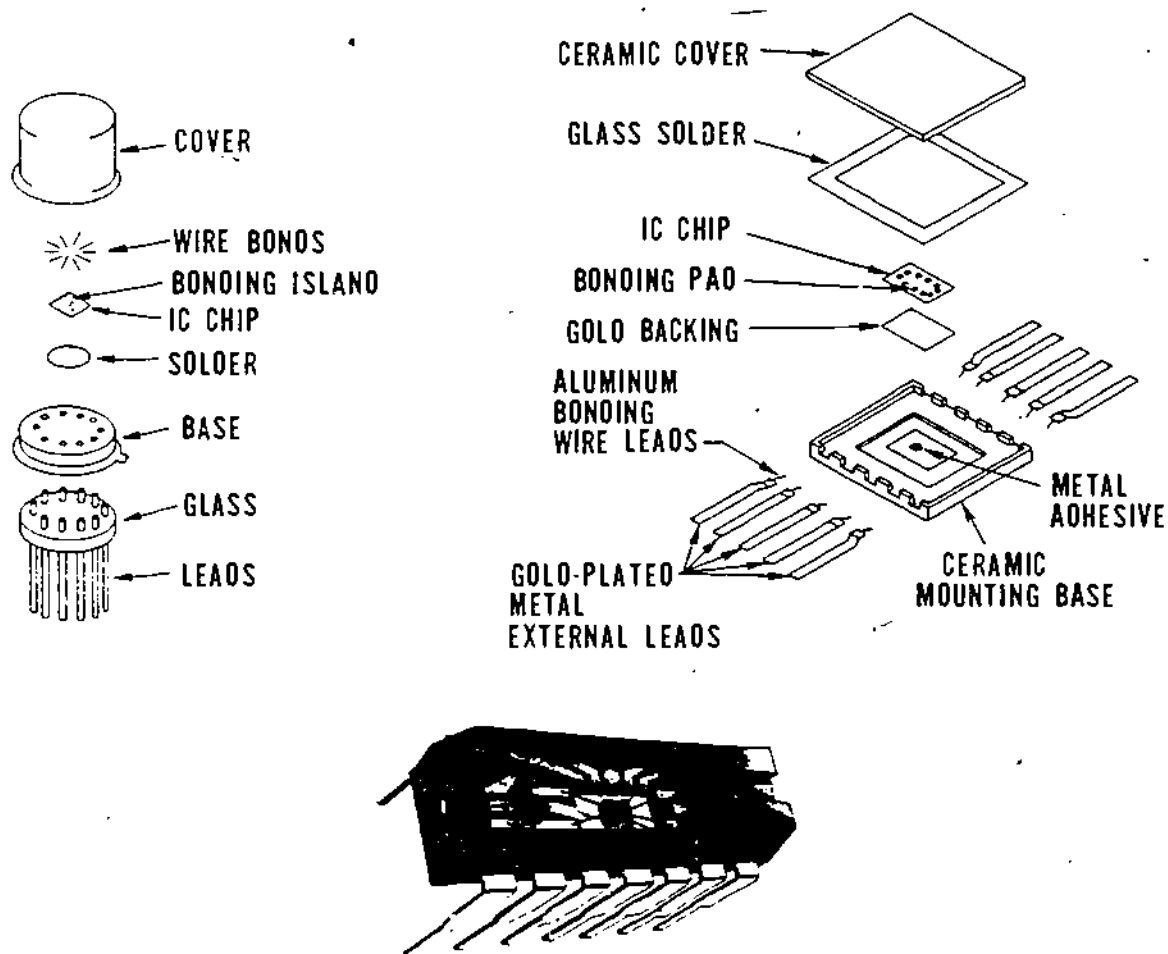

Figure 4
5. The IC chip must be mounted in a package that is easy to handle and ruggedized to protect the chip. Connections to various points in the chip's circuitry are also provided. Figure 4 shows three of these packages.